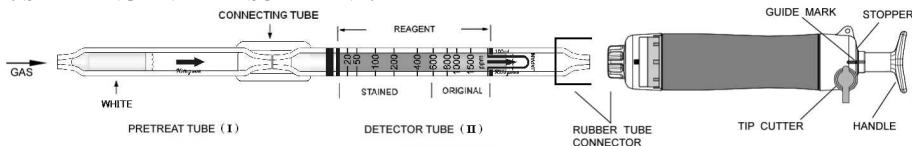

Fig.1
- ① Break both ends of the pretreat tube ( I ) and detector tube ( II ), and connect each end of the pretreat tube ( I ) and detector tube ( II ) with connecting tube as shown in Fig. 1.
- ② Insert the detector tube ( II ) into the aspirating pump securely as shown in Fig.1. (Arrow marks shall point to the pump.)
- ③ Align the guide marks on the shaft and stopper of the aspirating pump.
- ④ Pull the pump handle at a full stroke until it locks and wait for 1.5 minute or until the completion of sampling is confirmed with the flow indicator of the pump. (See descriptions about the flow indicator in the instruction manual of the pump.)
- ⑤ On completion of sampling, read the scale at the maximum point of the stained layer.